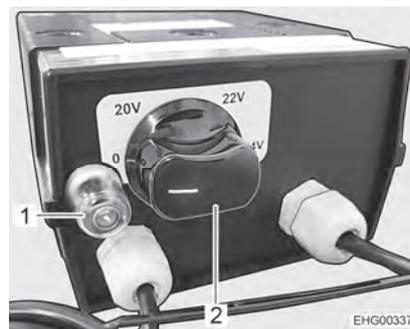

Fig. 126 Regulator for electrical floor warming unit
- Turn the control knob (Fig. 126,2) to the required heating level.
- Turn control knob (Fig. 126,2) to "0" position.
After switching off, the floor remains warm for a while, due to residual heat. If the regulator is overloaded, the overload protection is actuated. The pin (Fig. 126,1) jumps out.
- Press the pin (Fig. 126,1) on the overload protection when the regulator is cooled.